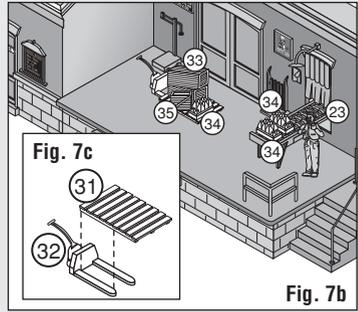

Fig. 7b
**Loading Dock Details (Fig. 7b - 7c)**
- Glue Pallet (31) to Pallet Jack (32).
- Glue Double Wood Crates (33), Milk Cartons (34), Small Wood Crate (35) to top of Wood Pallet.
- Glue Milk Cartons 2x (34) to Conveyor Belt (23).